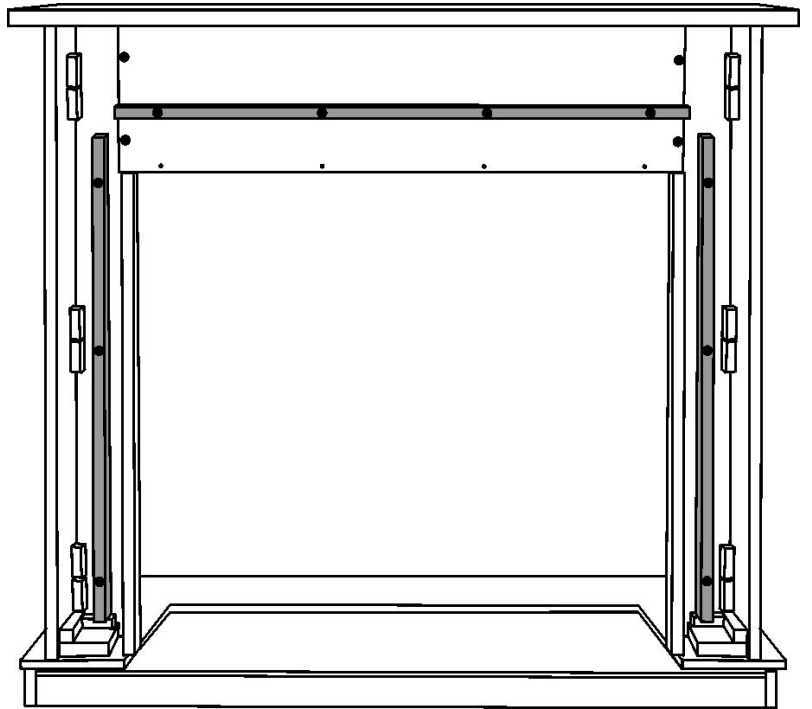

Figure 2. Gas rail positions as supplied.
- The gas rails are supplied fitted to the rear of the surround (See figure 2). They are screwed and are adjacent to their required locations. Unscrew and remove one rail at a time. We recommend that the top rail is fitted last. Locate and screw the rails in place using the screws previously removed (See figure 3).